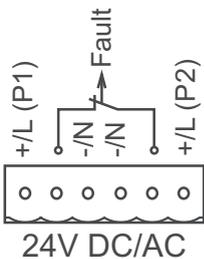

Figure 5: Pin assignment of the 6-pin terminal block
You can choose between DC or AC voltage when connecting the supply voltage (fig. 5).
- ▶ The signal contact (“FAULT”, for pin assignment see fig. 5) is used for the remote monitoring of the device to enable remote diagnostics. You can specify the type of function monitoring in the Management.